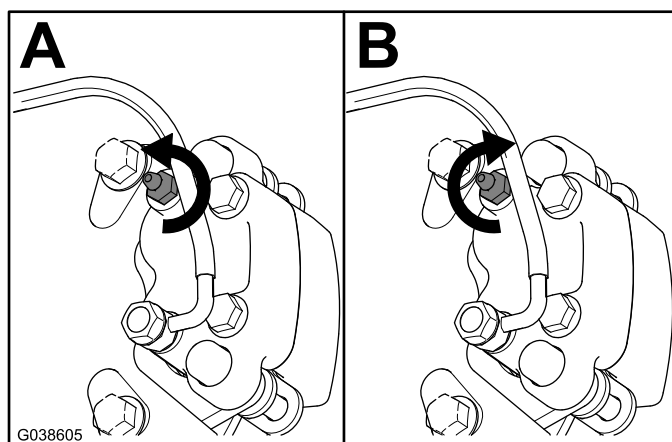

Figure 11
2. With brake pedal pushed down fully, loosen the bleed screw 1/4 turn (Figure 11).
3. With brake pedal pushed down fully, tighten the bleed screw 1/4 turn (Figure 11).